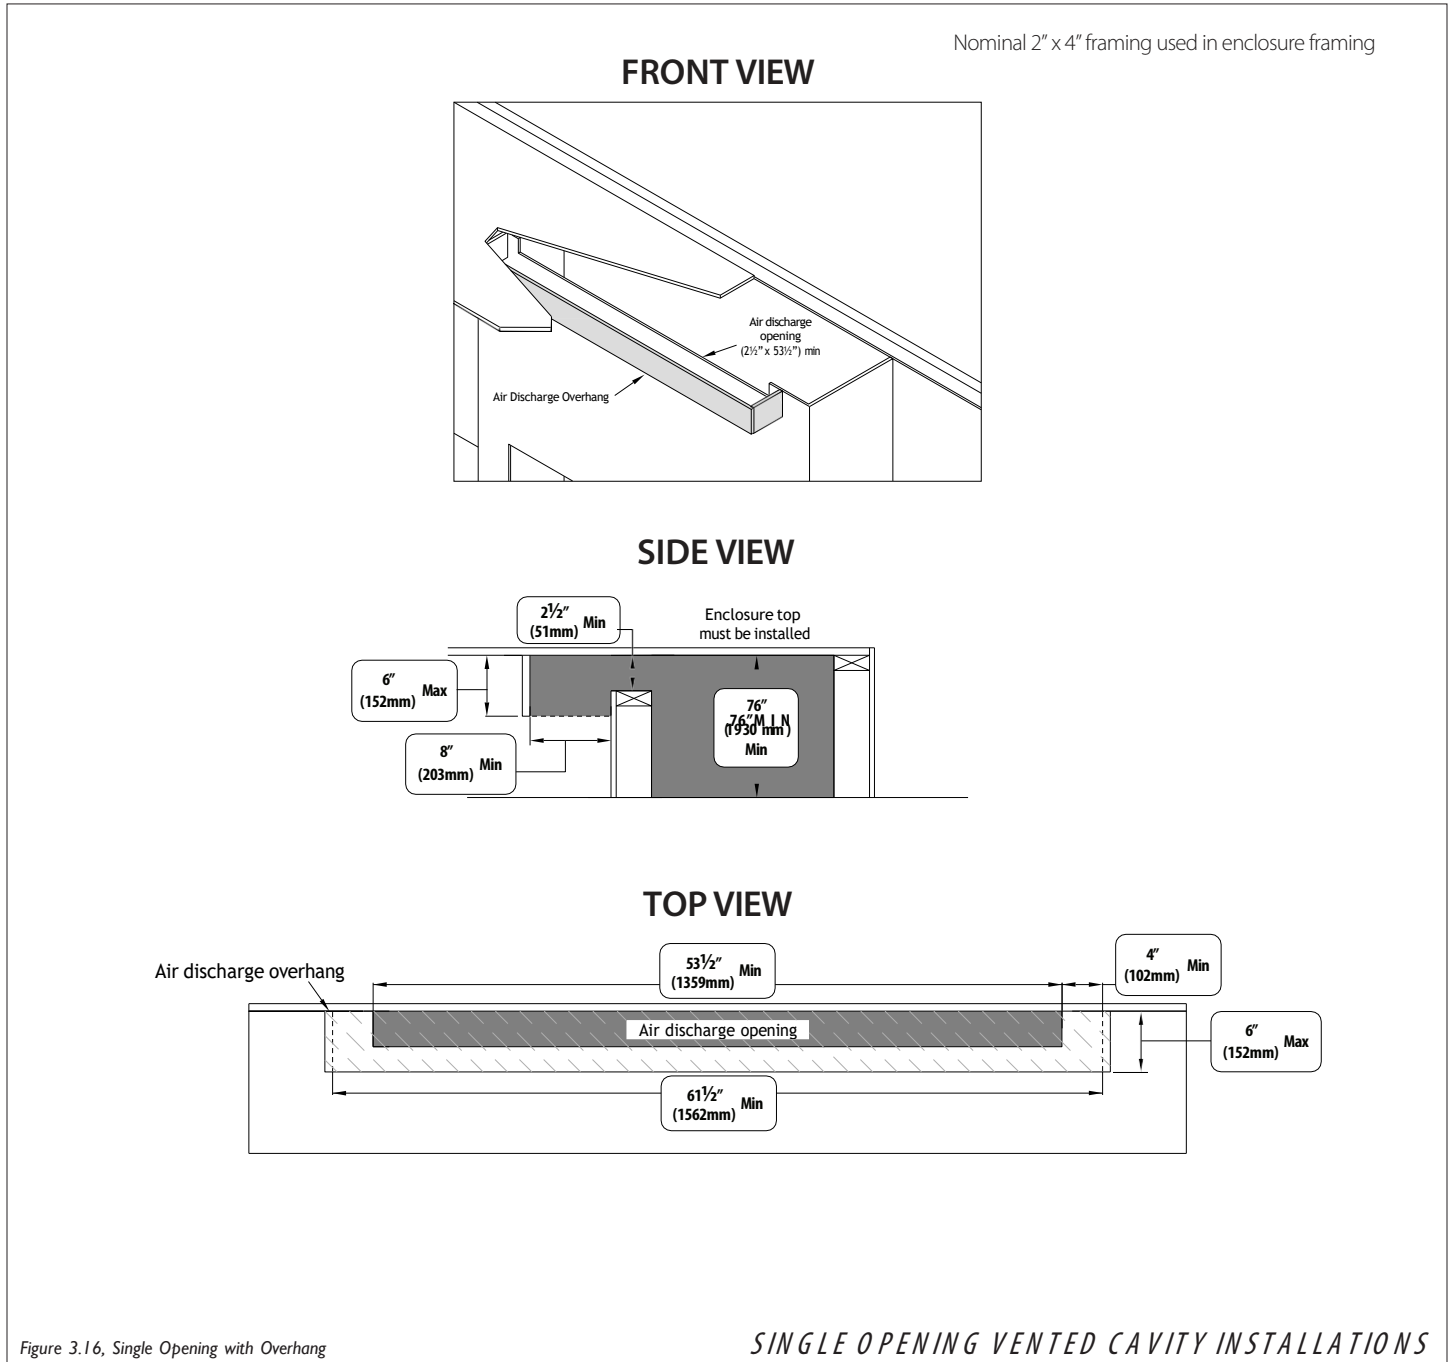

Figure 3.16, Single Opening with Overhang
- Figure 3.16 shows an alternative installation for the single opening vented cavity installation with an air discharge overhang in front of the air discharge opening. This installation method can provide a means to visually hide the air discharge opening.